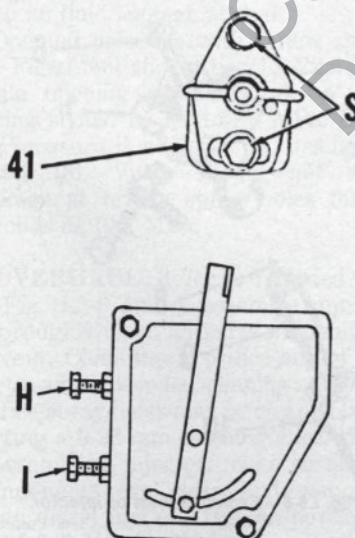

Fig. L5-1—Refer to text for engine speed adjustment.
Idle speed is adjusted by turning idle speed screw (I—Fig. L5-1). Idle speed should be 1000-1100 rpm. Maximum governed speed is adjusted by turning high speed screw (H). Maximum governed speed under load should be 2200 rpm for Models L8, L10 and L14, 2600 rpm for Models LDA100 and LDA820, and 3000 rpm for Models LDA96, LDA450 and LDA510.